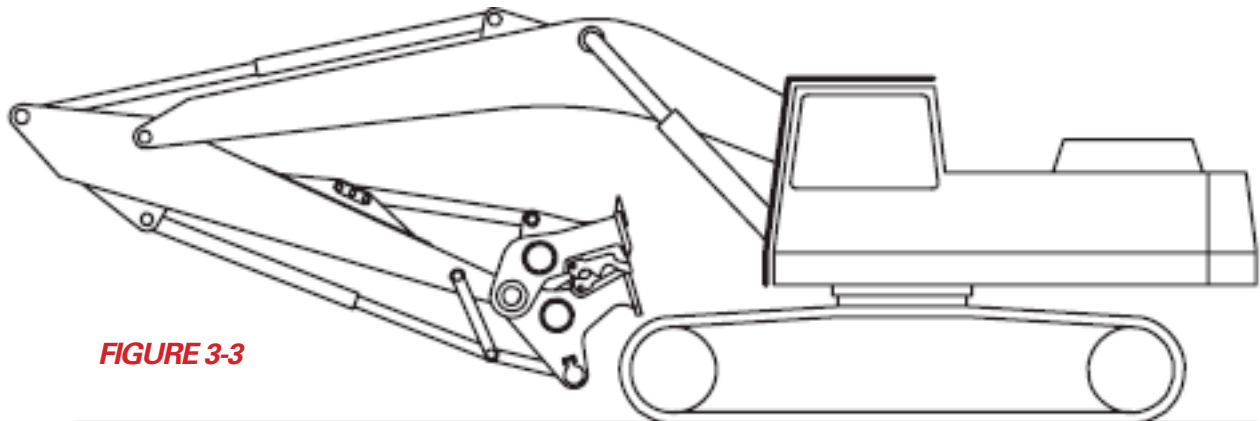

FIGURE 3-3
6. With all personnel standing clear, curl the excavator stick and extend the bucket cylinder to position the lower jaw as shown in figure 3-3.